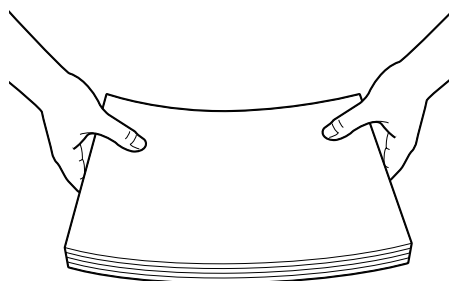

Fig. 3-4-15
- (5) Prepare new recording paper sheets by holding both ends and flexing several times. This will separate the sheets and provide optimum feeding. (See Fig. 3-4-15.) Align the stack so that all four corners are neatly aligned. Be sure to load the recording paper in accordance with any paper manufacturer's printing side instruction. Some papers have a preferred image side. This image side should be placed face up in the Recording Paper Tray.